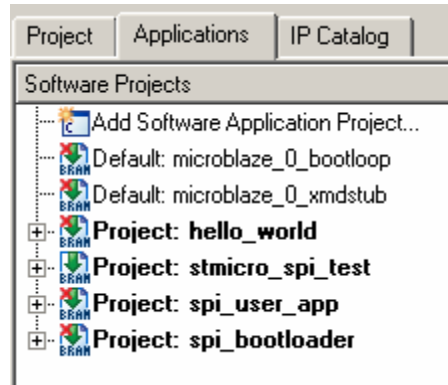

Figure 5 – Project: stmicro_spi_test Marked for BRAM Initialization
1. In XPS, mark the **stmicro_spi_test** for BRAM initialization and unmark all others, as shown in Figure 5.